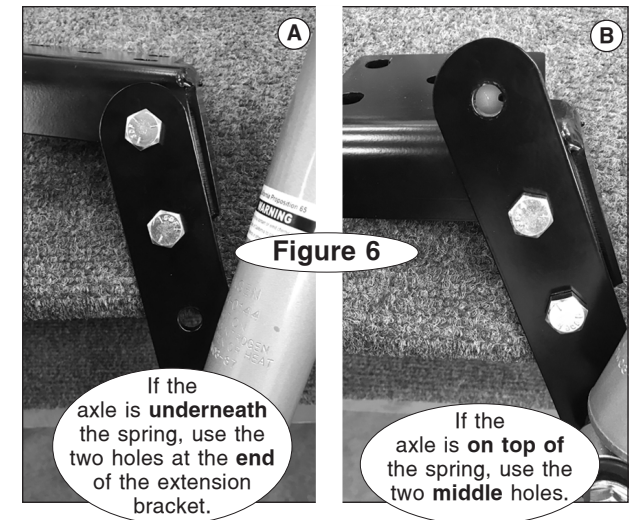

Figure 7
6. Position a washer (#5) over a bolt (#6) and bolt through the center hole of the frame bracket (#10), spacer (#9), washer (#5) and the top of the shock (Figure 7).